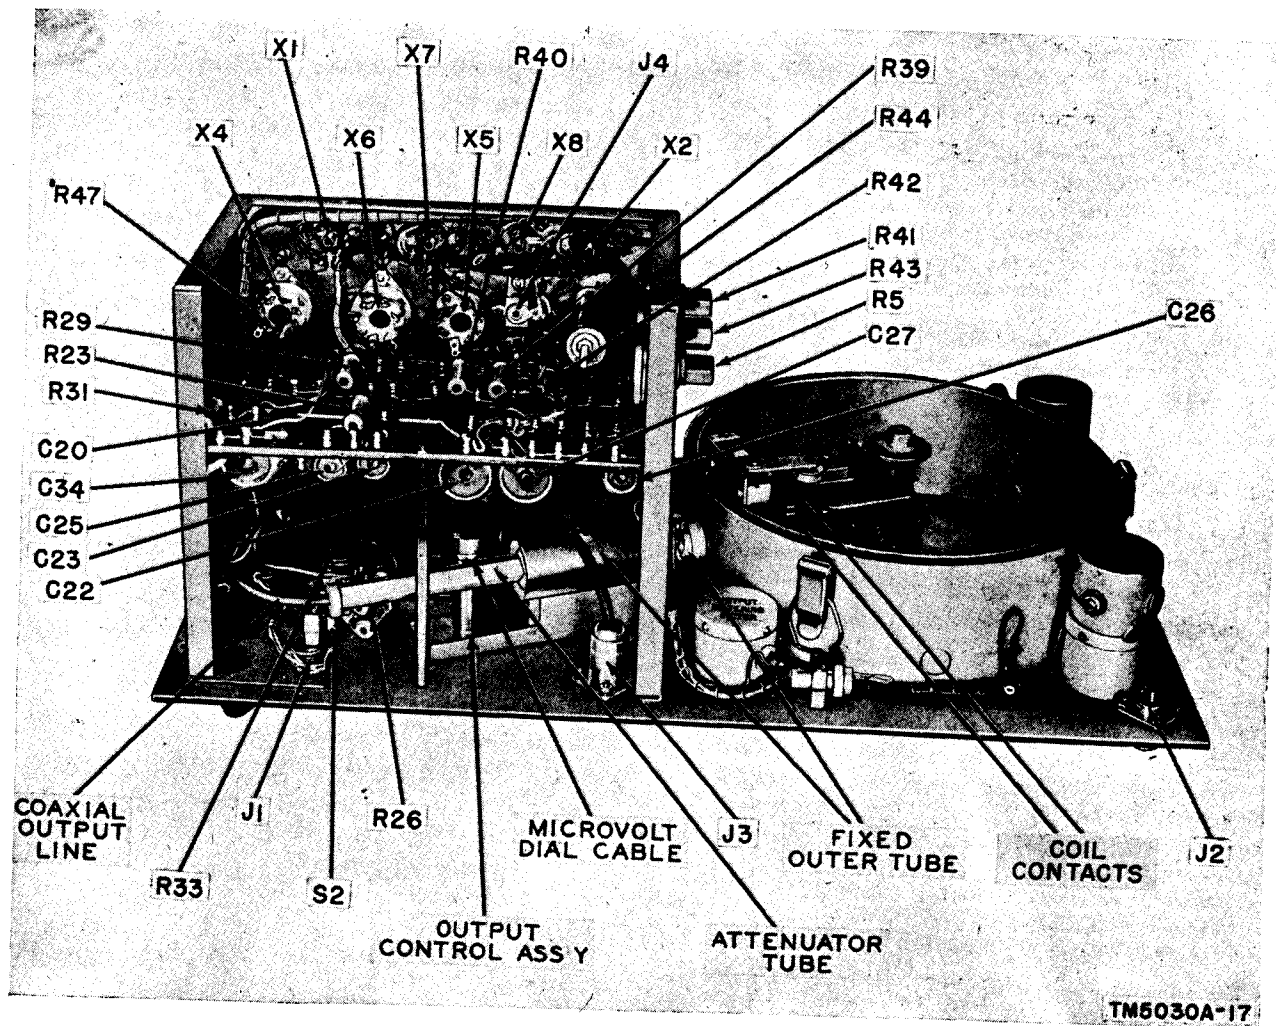

Figure 17. Bottom view of chassis, location of parts.
| Fig. 17 | Bottom view of chassis, location of parts. |
c. Do not disturb the adjustment of OUTPUT METER SET control R5 (fig. 17).
- (1) Before a part is unsoldered, note the position of the leads. Tag the leads to assure correct replacement.
- (2) Do not allow drops of solder to fall into the set. They may cause shorts.
- (3) Be careful in making soldered connections; faults due to poorly soldered joints are difficult to find.
- (4) When a part is replaced in r-f circuits, it must be placed exactly as the original one was, since a part having the same electrical value but different physical size may cause trouble in h-f (high-frequency) circuits. Give particular attention to proper grounding. Use the same ground as in the original wiring.